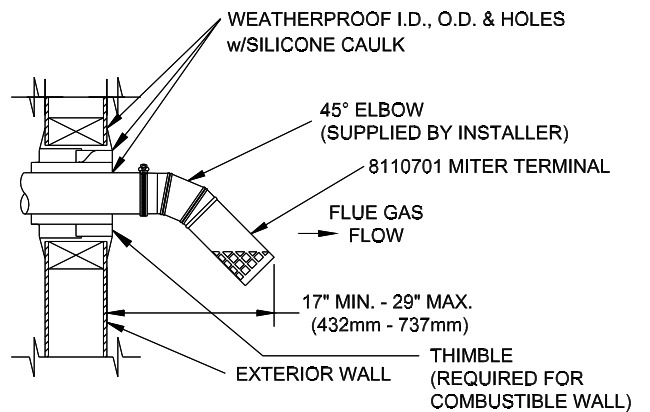

Figure 6.4: Optional Miter Terminal (X-PV3 thru X-PV6 Only)
- 5) 8110701 Miter terminal may be used as shown in Figure 6.4. 45° elbow is supplied by vent system manufacturer.